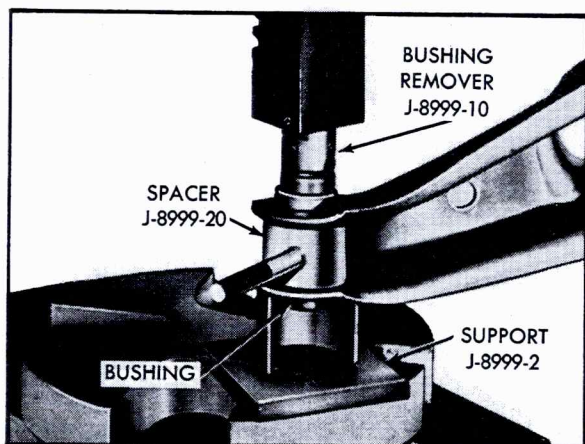

Fig. 3-23 Removing Bushing From Lower Arm
5. Position Bushing Remover, J-8999-10, on sleeve, Fig. 3-23 and press bushing out of arm.